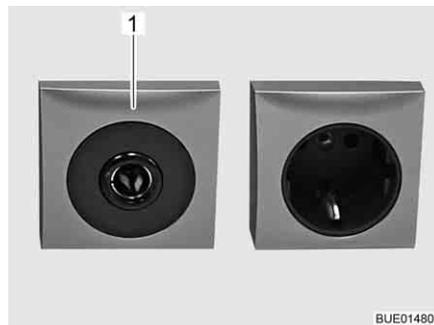

Fig. 154 12 V/10 A socket
- ▷ Only connect devices with a maximum of 10 A to the sockets (Fig. 154,1) of the 12 V power supply.